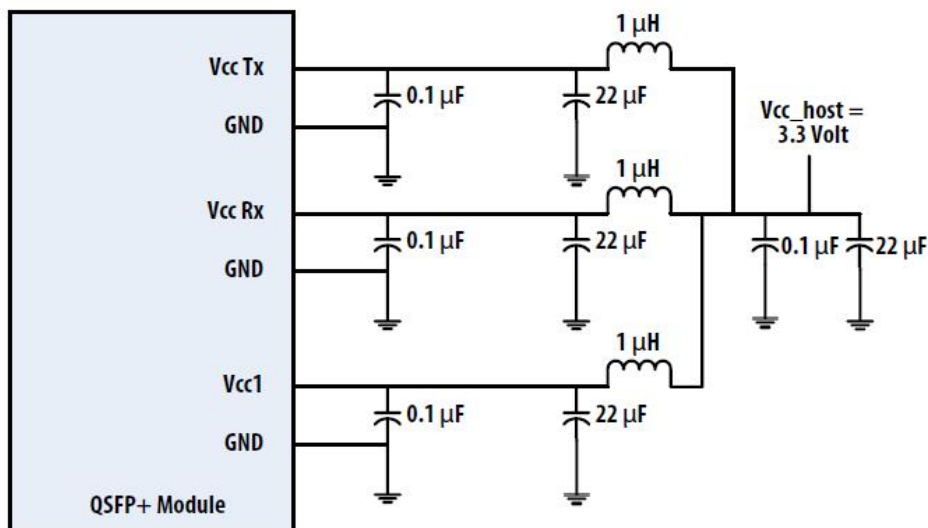

Figure 4.
2. VccRx, Vcc1 and VccTx are the receiver and transmitter power suppliers and shall be applied concurrently. Recommended host board power supply filtering is shown in Figure 4 below. Vcc Rx, Vcc1 and Vcc Tx may be internally connected within the QSFP28 transceiver module in any combination. The connector pins are each rated for a maximum current of 1000mA.